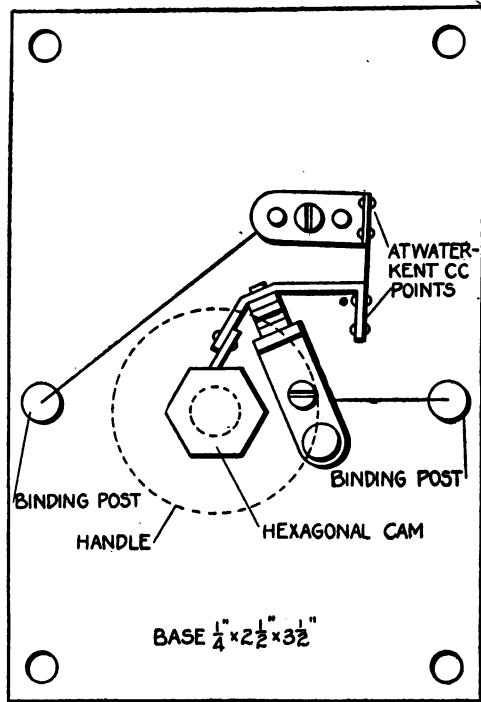
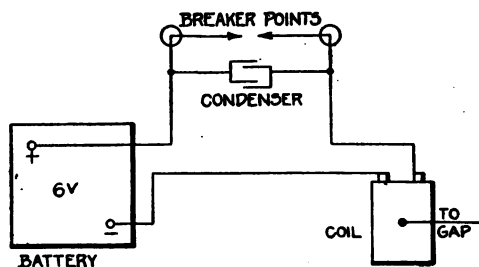

Fig. 419. Breaker-Point Test Set
Fig. 420. Method of Connecting for Test
**Single-Break Test.** A simple cheap breaker may be made as in Fig. 419. A piece of  $\frac{1}{4}$ -inch red fibre  $2\frac{1}{2}'' \times 3\frac{1}{2}''$  forms the base; Atwater-Kent type CC points are used for contacts; the hexagon cam is made from a  $\frac{3}{8}$ -inch hexagon iron rod turned down to a shoulder  $\frac{1}{4}$  inch in diameter and projects through the base, with a fiber handle about an inch in diameter attached. A condenser is connected across the points, and the whole assembly mounted on the test board. To test with this apparatus, the coil is connected as in Fig. 420; the battery coil primary and breaker are connected in series; the coil secondary is connected to the gap, and the spark is noted. As this type of breaker has no resistance to speak of and is operated by hand, the coil has plenty of time to saturate its core, the spark produced being uniform.